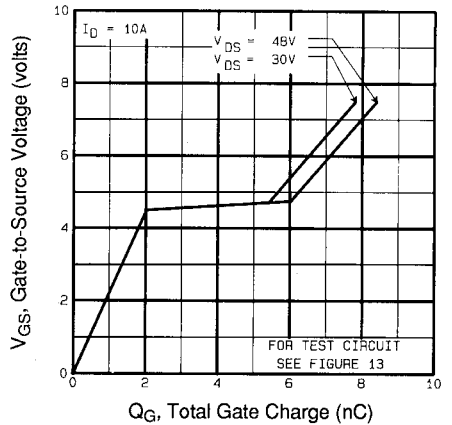

Fig 6. Typical Gate Charge Vs. Gate-to-Source Voltage
| Q _{gd} | Gate-to-Drain ("Miller") Charge | — | — | 6.0 | | V _{GS} =5.0V See Fig. 6 and 13 ④ |